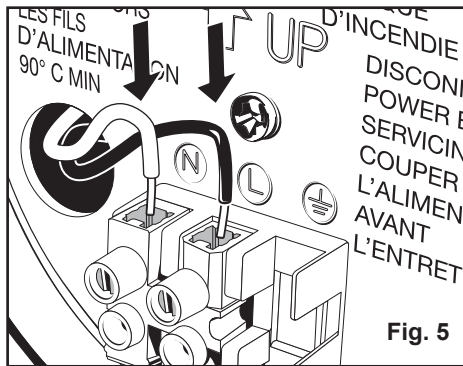
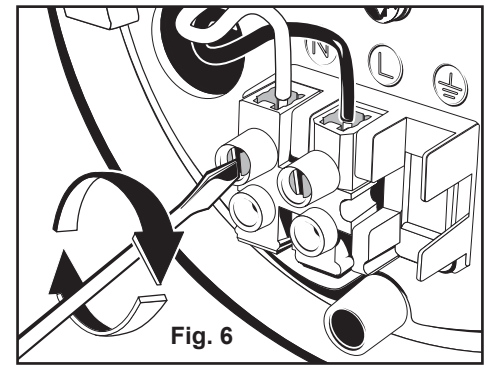
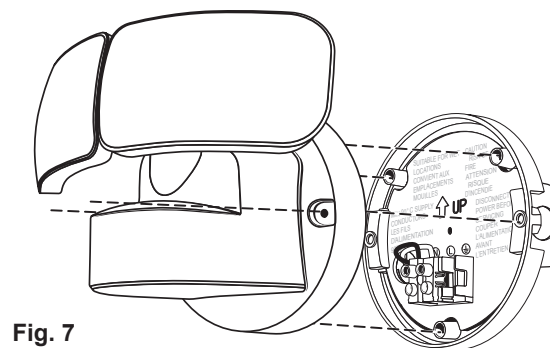
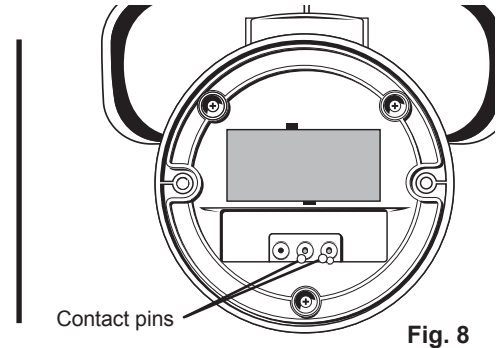

Fig. 5
Fig. 6
Fig. 7
Fig. 8
3. Insert the wires into their designated contact terminals (Fig. 5). Insert the **Black Supply Wire** (Live) into the terminal marked “L”, insert the **White Supply Wire** (Neutral) into the terminal marked “N” (Fig. 6) and tighten screws to both terminals (Fig. 7).
4. The security light fits onto the mounting plate in a specific manner. There are three (3) tapered posts on the mounting plate, two toward the top and one at the bottom. They fit into three (3) corresponding holes on the back side of the mounting base of the fixture (Fig. 7). Line the holes and posts up and guide the fixture onto the mounting plate already attached to the junction box. There are also 2 contact pins that align and will engage the contact terminal block on the mounting plate (Fig. 8).